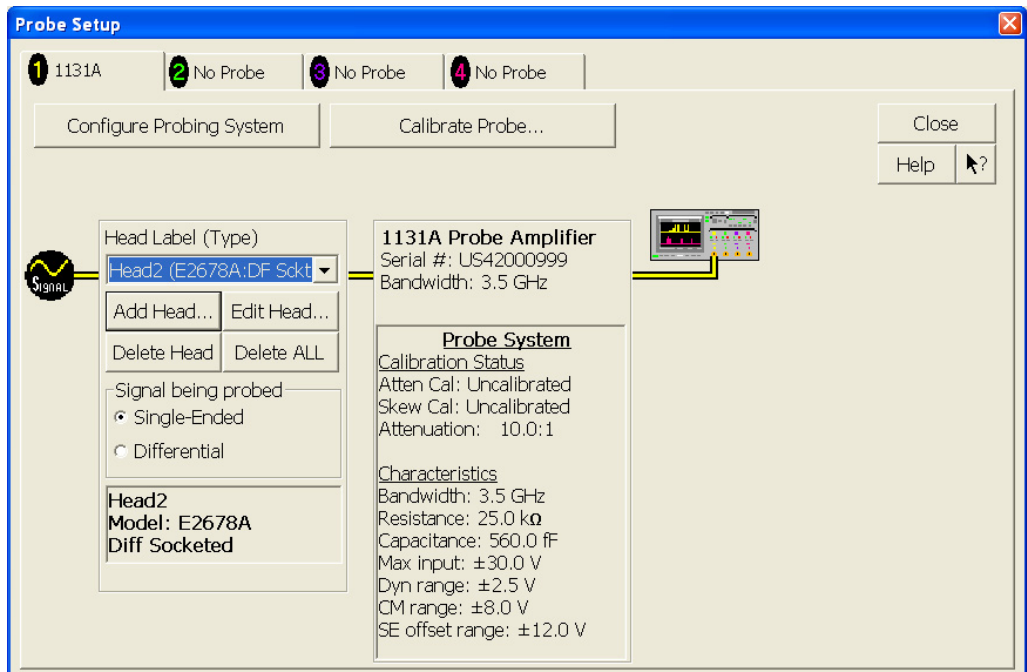

Figure 60 Probe Setup Window.
- 2 Referring to Figure 60 below, perform the following steps: